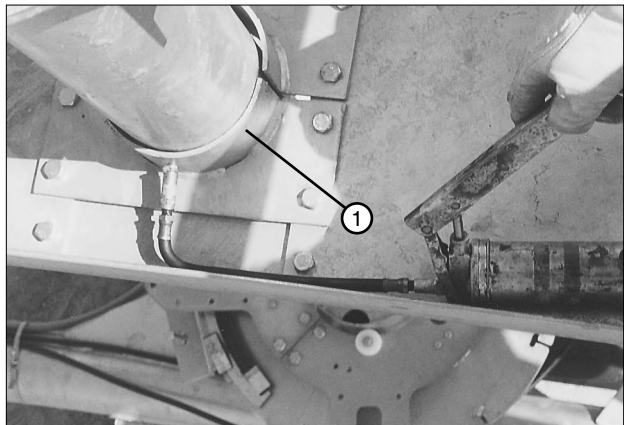

Figure 36-2 1. Upper Bearing
2. Lubricate two (2) grease fittings on the upper bearing. See figure 36-2.